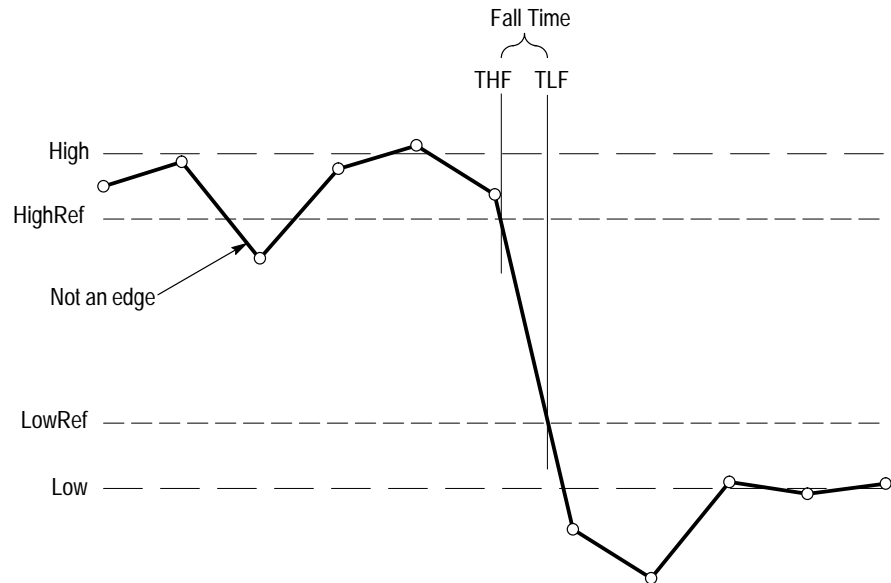

Figure C-2: Fall time
- Count only edges that go through both HREF and LREF (see Figure C-2).